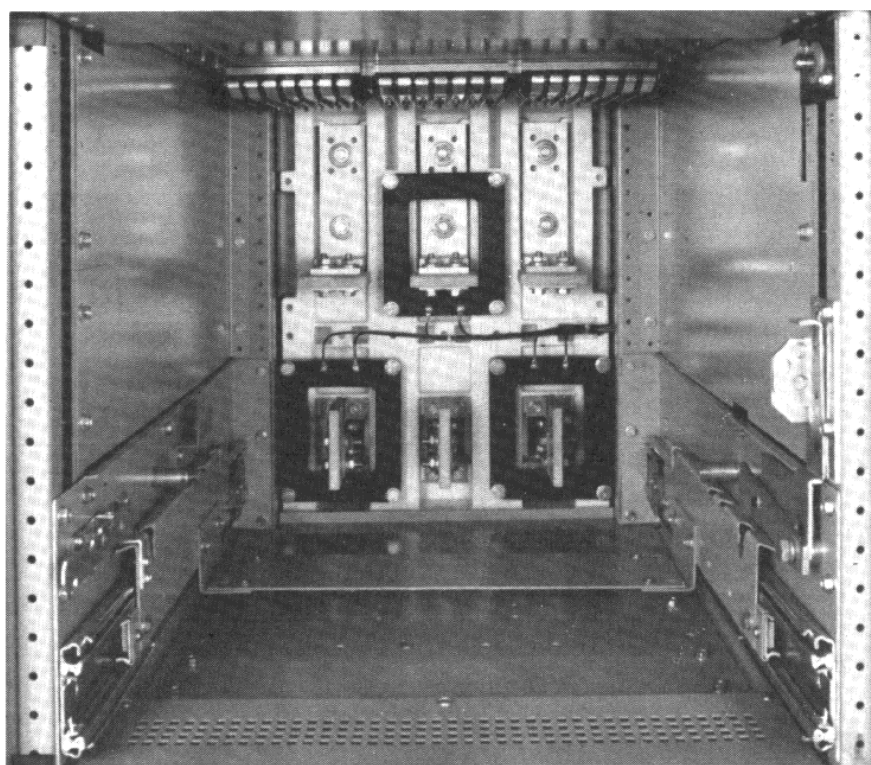

Fig. 3
- Breaker compartment doors are provided without ventilation slots to protect operators from hot ionized gases vented by the breaker during circuit interruption. Additionally the breaker compartment (figure 3) is enclosed in grounded steel bar-